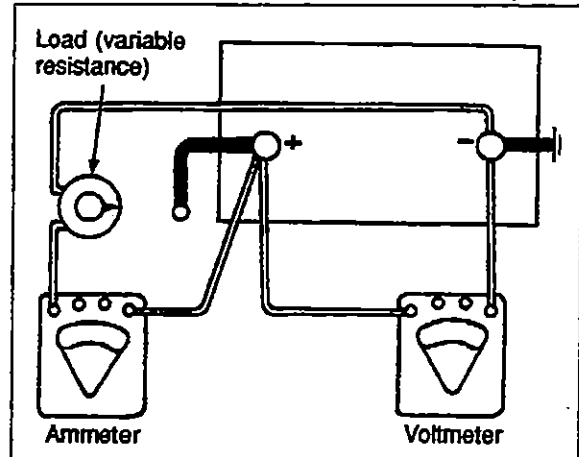

Figure 18
1. Connect a voltmeter, ammeter, and a variable load resistance as illustrated in figure 18.